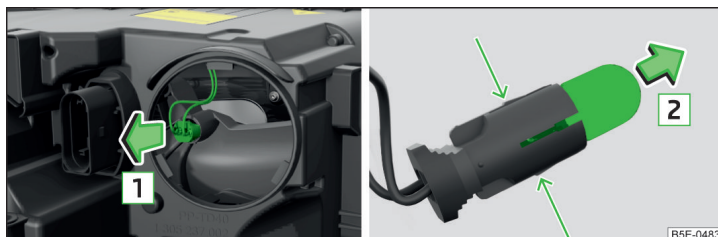

Fig. 222 Headlights with Xenon light: Bulb for additional parking light
- Remove the bulb holder with the bulb by jiggling it out in the direction of the arrow **1** » Fig. 222.